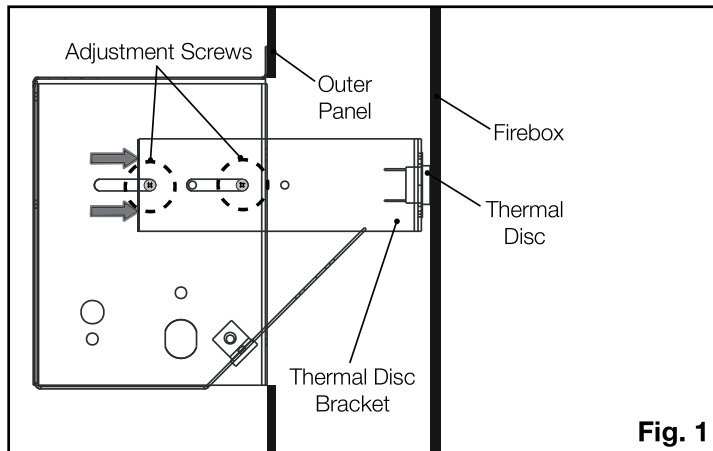

Fig. 1
1. Ensure the thermal disc bracket is in the correct position (**Fig. 1**).
5. Reach between the outer panel and the firebox, then slide the thermal disc bracket until the thermal disc is touching the rear of the firebox. (**Fig. 1**).